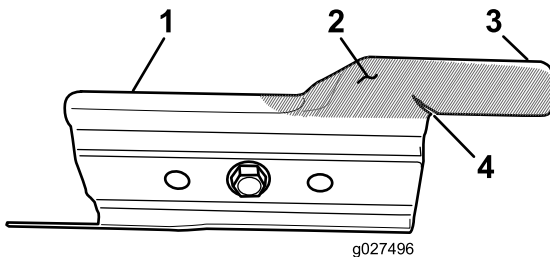

Figure 31
Carefully examine the accelerator for excessive wear (Figure 31). Because sand and abrasive material can wear away the metal (especially in the area shown as item 2 in Figure 31), check the accelerator before using the machine. If you notice that a tab on the accelerator has been worn down to a sharp edge or there is a crack, replace the accelerator; refer to Removing the Blade (page 26).